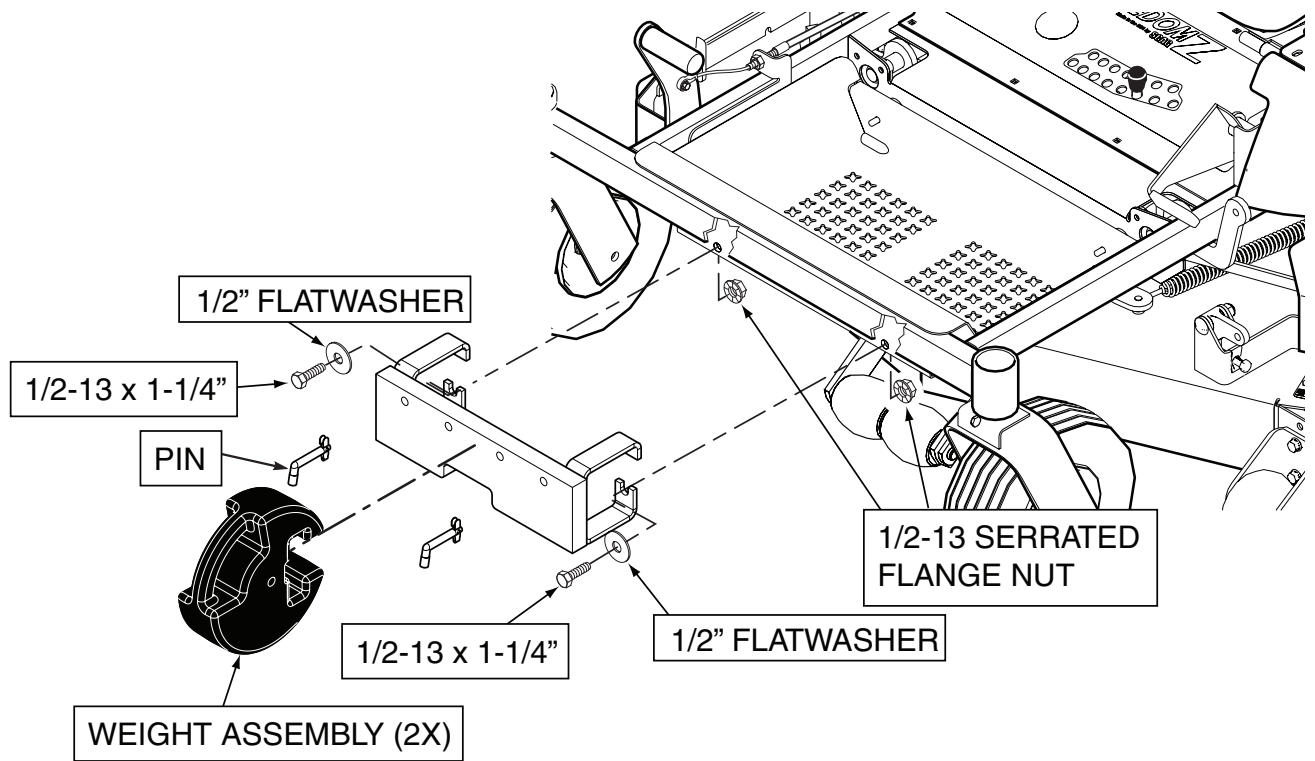
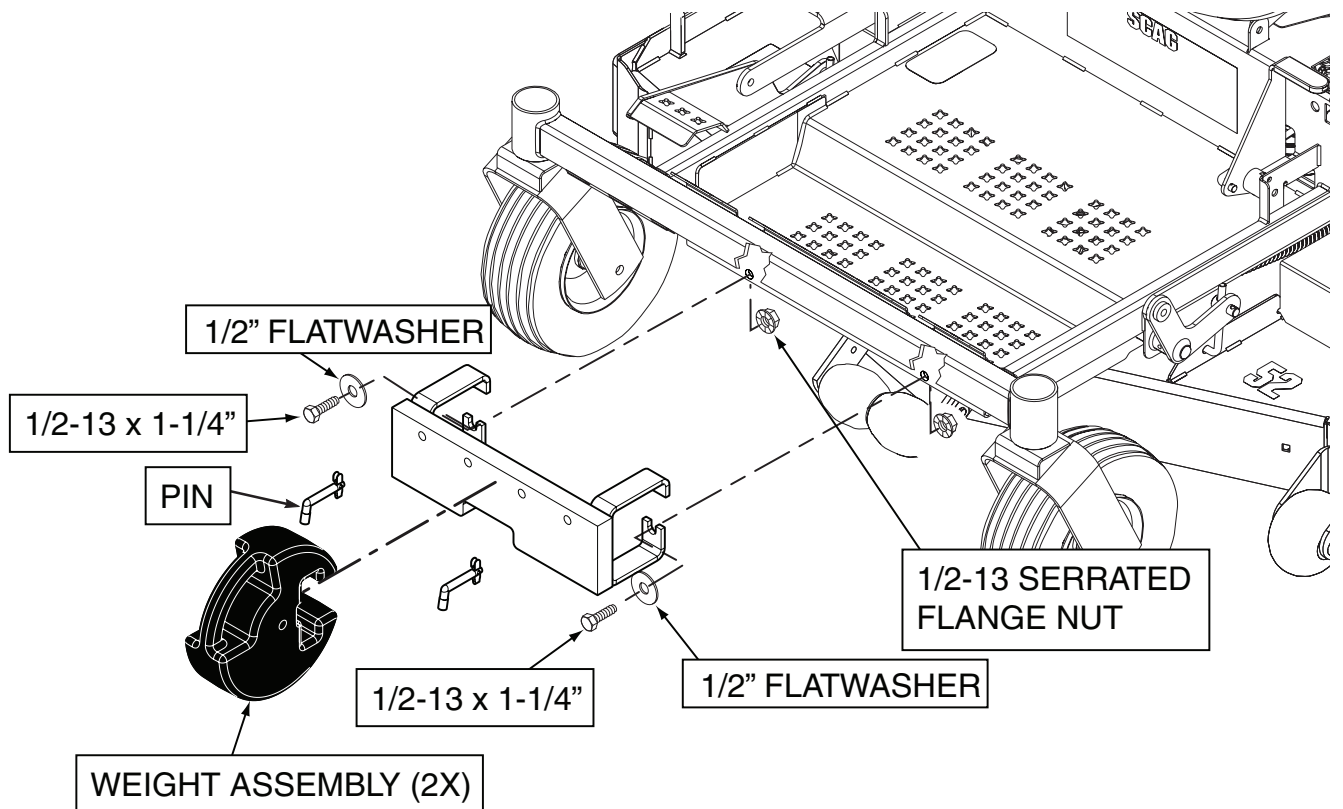

Figure 2-21. SFZ / SFZP / SPZ Front Weight Bar Installation
Figure 2-22. SZL Front Weight Bar Installation
- For SFZP and SPZ units, remove the front (2) serrated flange nuts securing the foot plate to the machine. This will allow the foot plate to lift upward and allow the front weight bar to be installed on the machine.
- Install the front weight support bar to the machine and secure using (2) 1/2-13 x 1-1/4" hex head bolts, (2) 1/2" flatwashers and (2) 1/2-13 serrated flange nuts. See Figure 2-21 for SFZ, SFZP and SPZ models and Figure 2-22 for SZL models.
- Tighten the hardware and re-install the front (2) serrated flange nuts to secure the foot plate to the machine.